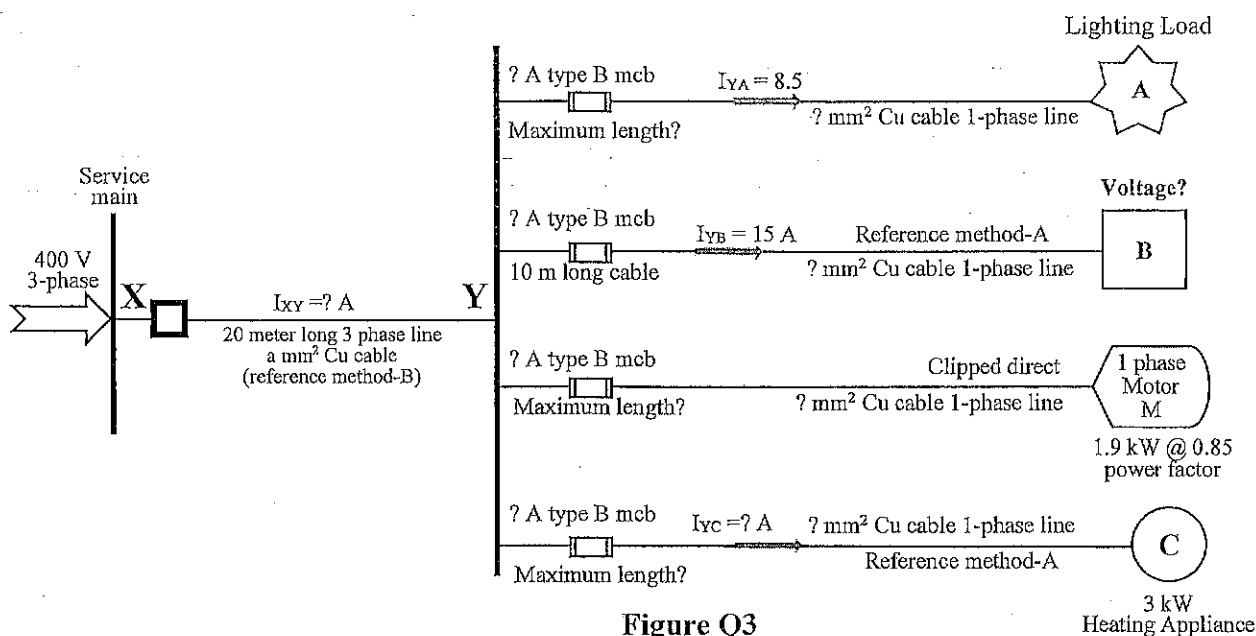

Figure Q3
3. Conceptual single line diagram of a certain installation is as shown in Figure Q3.
A 3-phase service main of “a” mm² and a length of 20 meter supplies a symmetrical 3 sets of identical A, B, C and a 1-phase motor loads connected to 3-phases emanating from bus-bar Y (only a single set of loads connected to one phase is shown in figure Q3 for clarity and simplicity). Permissible voltage drop allowed from X to each destination of load is 2.5%.